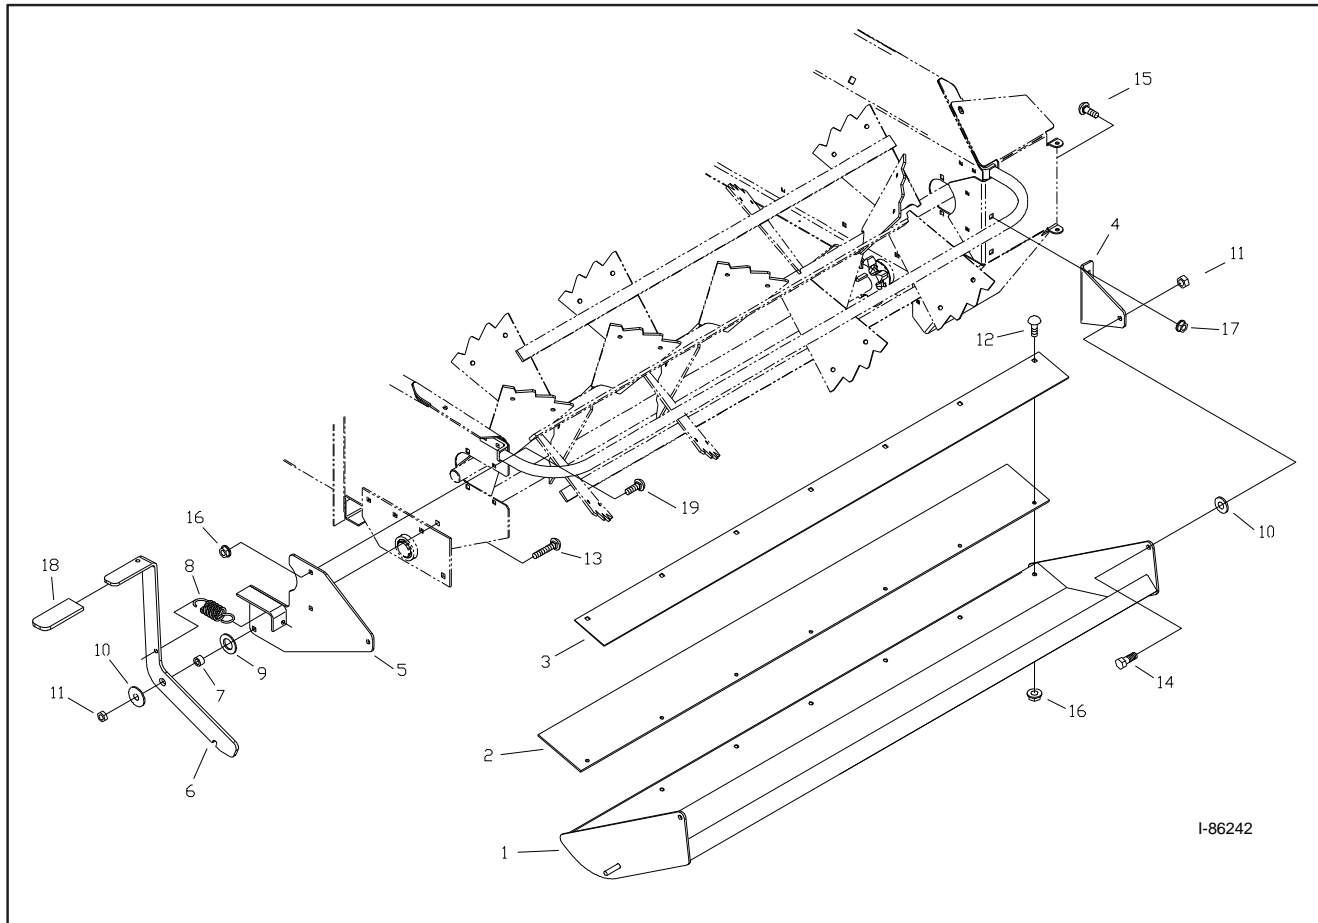

Figure B2 - Fines Pan Parts Detail
2. Refer to the **Figure B2**. Install the lefthand (LH) fines pan mounting bracket (**item #5**) on the left rear of the spreader box, using the hardware provided.
4. Open the rear shield door on the right rear side of the spreader box. Install the righthand (RH) fines pan mounting bracket (**item #4**) on the right rear of the spreader box, using the hardware provided.
5. Assemble **item #'s 1, 2, and 3** as shown in Figure B2 to form the fines pan.